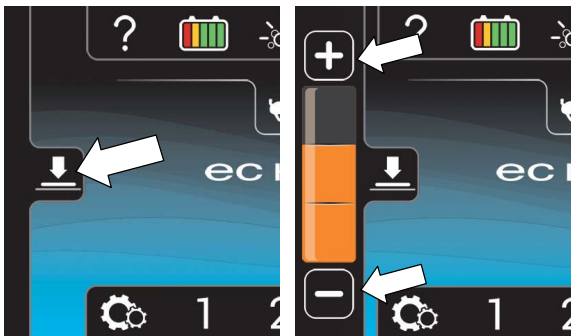

FIG. 50
3.  Press the down pressure icon to display the down pressure scale (Figure 50). Press the (+) symbol to increase down pressure. Press the (-) symbol to decrease the down pressure.